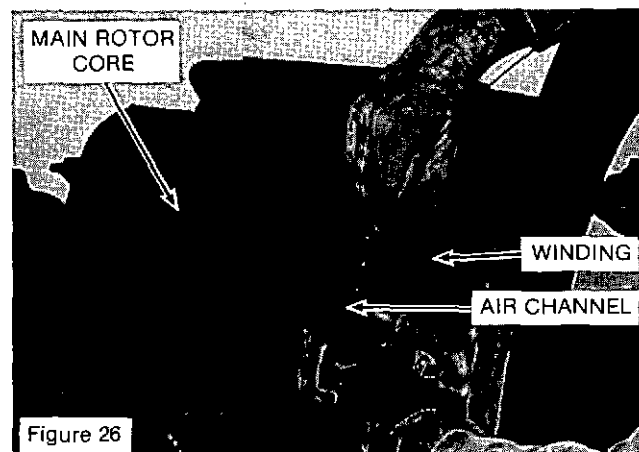

Figure 26
1. Clean all metal parts with an approved cleaning solvent. Remove dust and dirt from the rotor windings with a soft cloth or brush. (See Figure 26.) (See cleaning methods.)